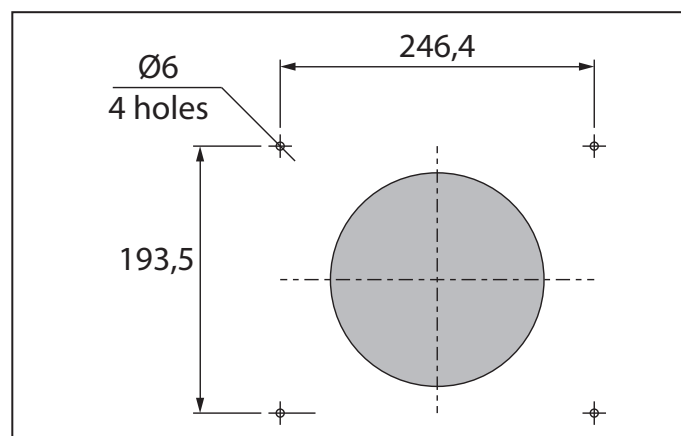

Fig. 11b.
- Fig. 11b – for the models VENTO A50 S / A50-1 S.